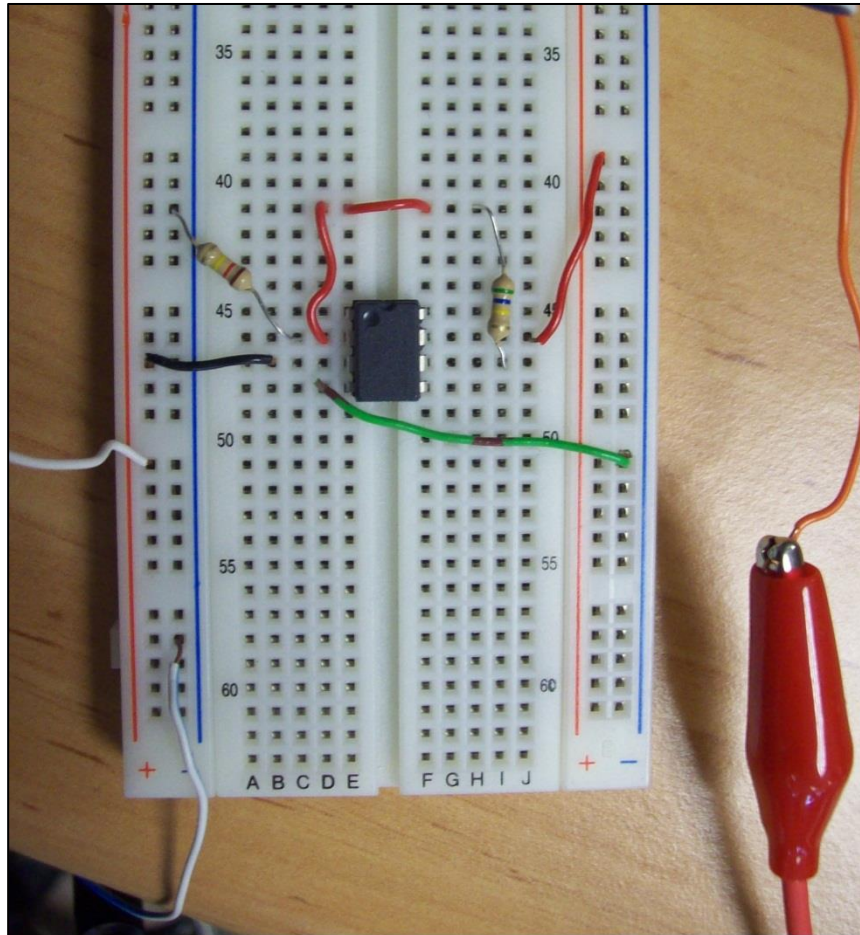

Figure 2: Example op-amp circuit
- a) Place the op-amp in the middle of the breadboard (as in Figure 2).